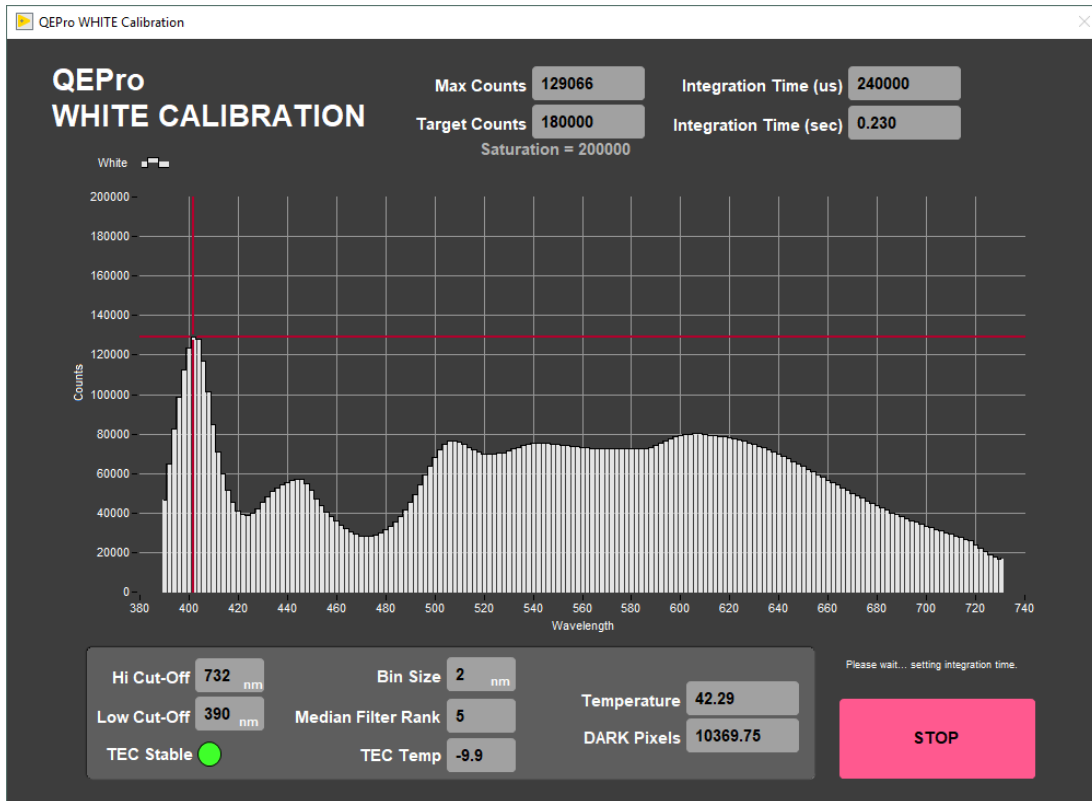

Figure 7. White Calibration Screen
a. The logger moves the QE Pro integrating sphere over the **WHITE** calibration standard and lowers the sensor until it touches. The sensor begins the white calibration measurements (**Figure 7**) based on the set saturation level of the total response (Review Setup parameters window).